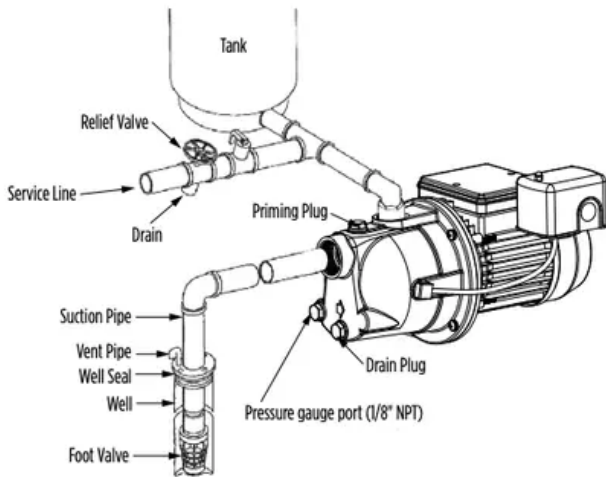
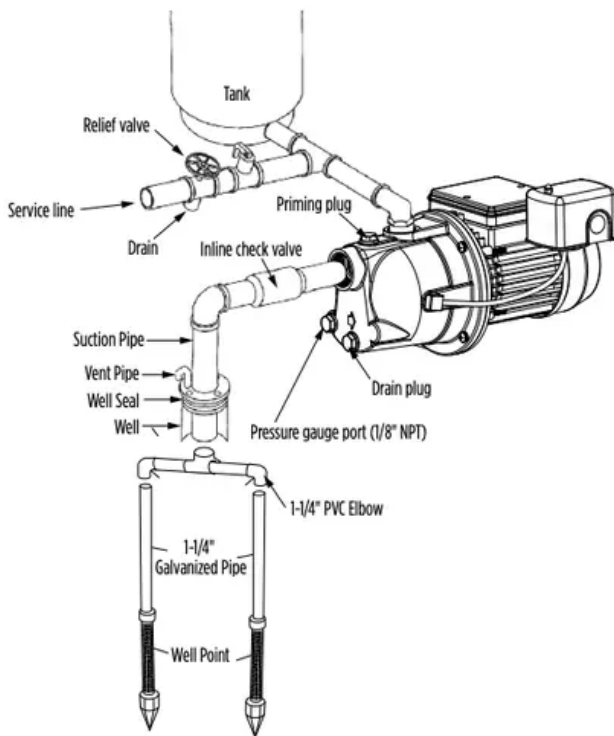

Figure 3 - SHALLOW WELL
Figure 5 - SHALLOW WELL
It is recommended that only new, clean 1-1/4" pipe or hose be used. If the pump is installed any appreciable distance away from the source of water, the suction pipe should be increased to 1-1/2". Horizontal lengths of pipe must gradually slope upward from the source of water to the pump to avoid air pockets in the line. Thread compound should be used on all pipe joints and connections should be thoroughly tightened. A foot valve or check valve must be installed and its operation should be checked since a leak will prevent proper operation of the system. Make sure the foot valve is located so that it will be submerged at all times. If a sandpoint or driven well is used, install a check valve next to the pump suction instead of the foot valve (see Typical Installations Figure 5). All installations must have a foot valve or a check valve in the suction pipe.
11. A pressure gauge is not supplied with the pump. It should be installed into the 1/8" NPT hole on the front of the casing on the opposite side of the pressure switch (see Typical Installations Figures 3, 4, 5, or 6).
Shallow well installations use only a single pipe connecting the pump to the water supply. This pump can be used for drilled wells (see Figures 3, 4 or 6) or driven wells (see Figure 5). Drilled wells are holes drilled into the ground by professional well drillers using a large rig. Driven wells use well points (also known as sand points), which is a long pointed tube with a screen that allows water to enter the pipe but keeps out sand and sediment. The water level in a driven well is fairly high or near ground level (maximum 30 ft [9.1 m]). Continue with the appropriate shallow well installation.
7. A pressure gauge is not supplied with the pump. It should be installed into the 1/8" NPT hole on the front of the casing on the opposite side of the pressure switch (see Typical Installations Figures 3, 4 or 6).
1. Drive the well point into the ground according to the instructions that come with the well point. It must be deep enough to bore through the water bearing formation below the water table but should not exceed 25 ft (7.6 m) in depth. An individual well point may not supply the amount of water needed. Sometimes it is necessary to use more than one well point to increase the water supply. The two separate well points can be jointed together using additional piping and a cross joint (see Figure 5).
8. A pressure gauge is not supplied with the pump. It should be installed into the 1/8" NPT hole on the front of the casing on the opposite side of the pressure switch (see Typical Installations Figure 5).